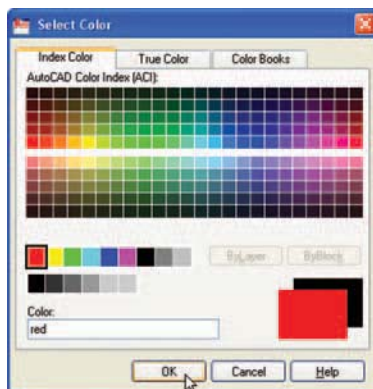

Fig. 4.17 The **Select Color** dialog
4. Click one of the squares under the **Color** column of the dialog. The **Select Color** dialog appears (Fig. 4.17). Double-click on one of the colours in the **Index Color** squares. The selected colour appears against the layer name in which the square was selected. Repeat until all 5 new layers have a colour.